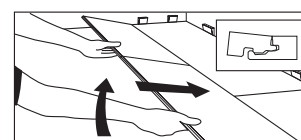

Figure 9
- Angle up and push forward until the boards lock together (Fig. 9).